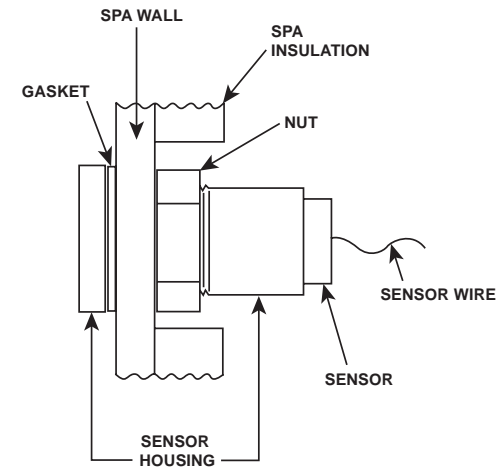

Figure 3 - Side view of installed sensor and housing
5. Insert the probe into the housing making sure it is pushed all the way in. The result should look similar to that shown in Figure 3.